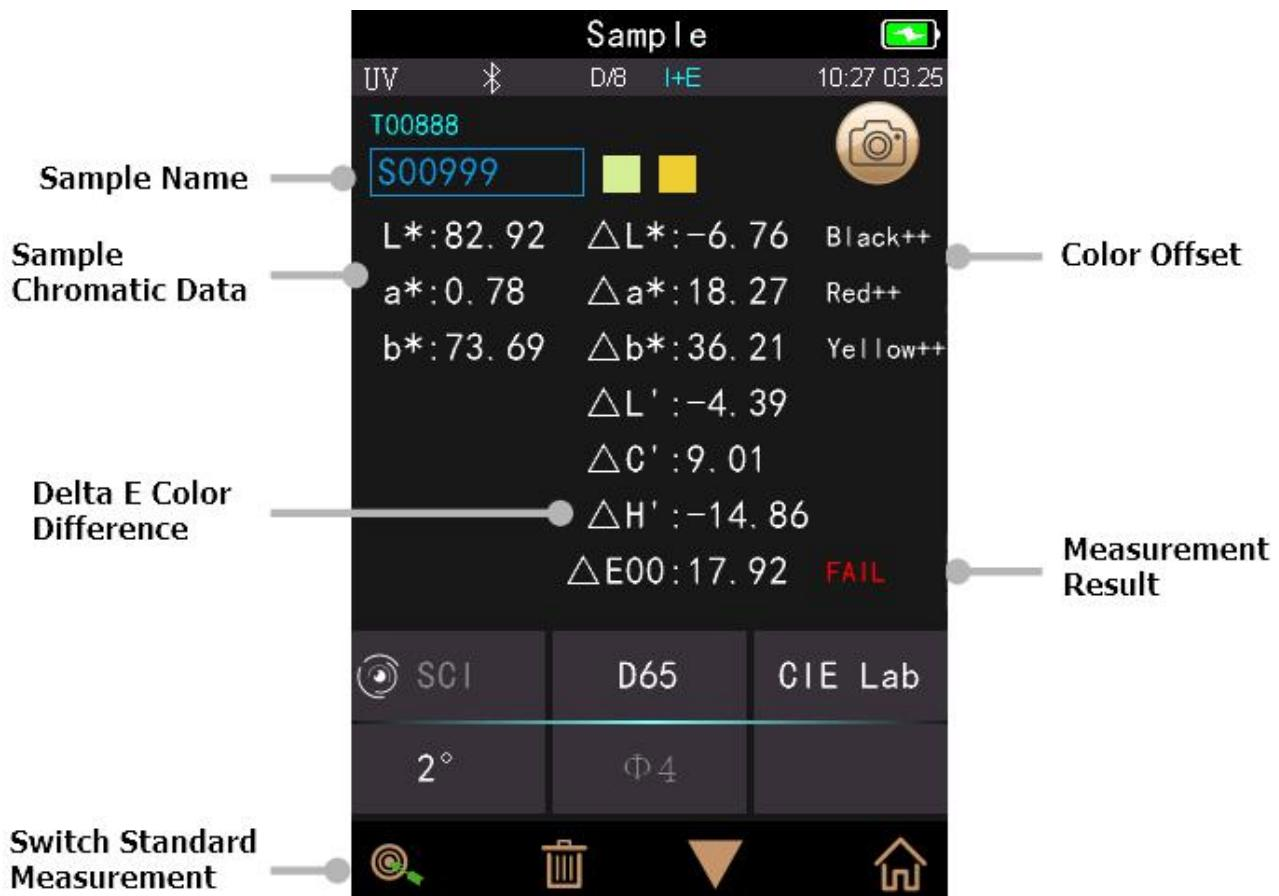
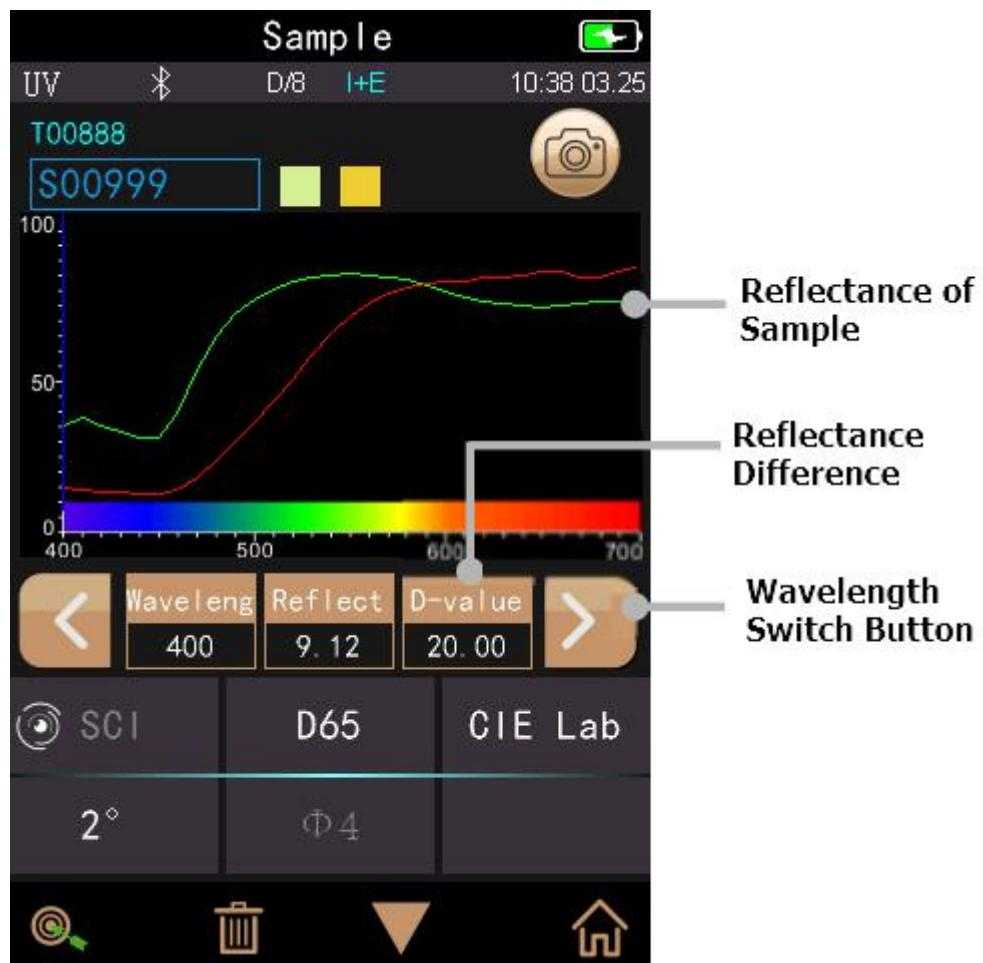

Figure 11 Sample Measurement
Figure 12 Reflectance of Sample Measurement
After testing the standard, click “Sample measurement” to enter Sample Measurement interface. It is the same steps with standard measurement. After measurement, it will display as shown in Figure 11 and in Figure 12. Sample measurement is similar with standard measurement but it will display the color difference between the current standard and measured sample.
9) Wavelength switch button: As shown in Figure 12, click or , the wave length and reflectance of the current sample will switch as range of 10nm interval.